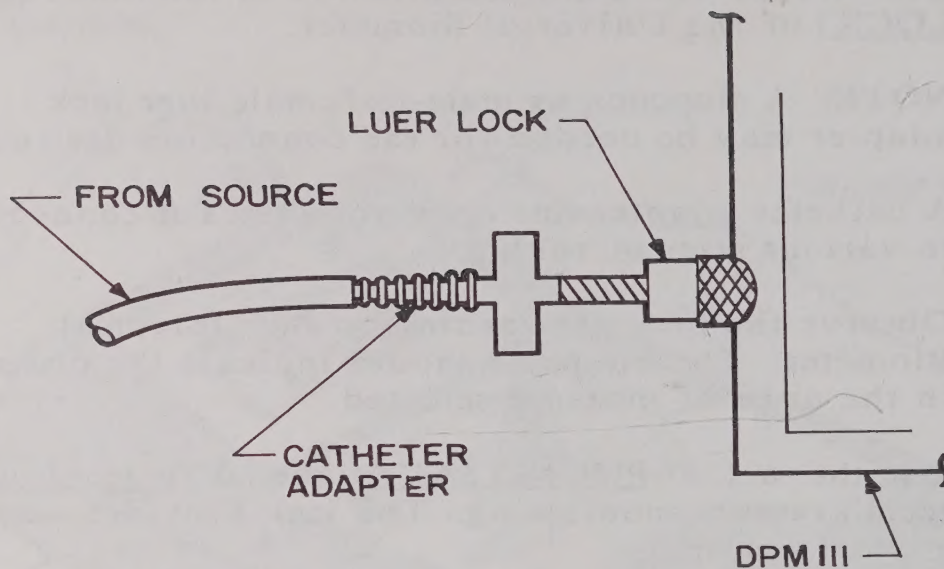

Figure 2. Standard Model DPM-III to Catheter Connection
1. Check static cuff pressure and cuff pressure variations (see Figures 2 through 5) for:
2. Measure positive pressures of compressor outputs (see Figures 2, 3, 5, and 6) for:
3. Check occlusions, and operating and purge pressures (see Figures 2, 3, and 7) for:
4. Verify negative pressures in diagnostic and surgical suction equipment (see Figures 2, 3, 5, and 6) for:
5. Verify vacuum pressure in eye surgery equipment (see Figures 2, 3, and 7) for:
6. Check dialysate pressure (see Figures 2 through 5) for:
7. Calibrate pressure-measuring devices (see Figures 2 through 5) for: